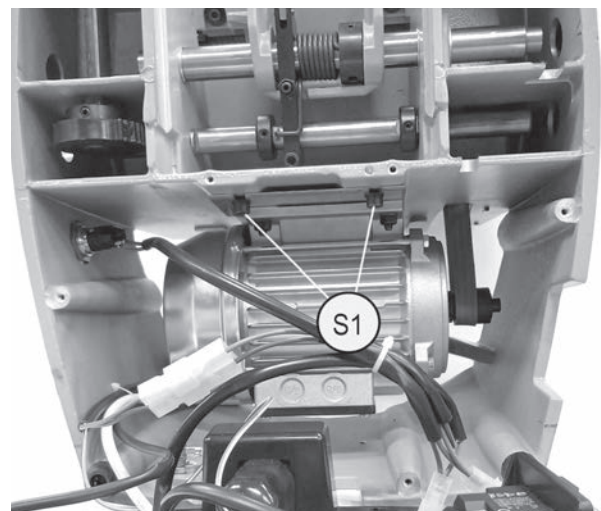

Fig. 56
- 9) Loosen completely only the 2 lower screws (S1) the motor fixing plate and pull downwards (Fig. 56).